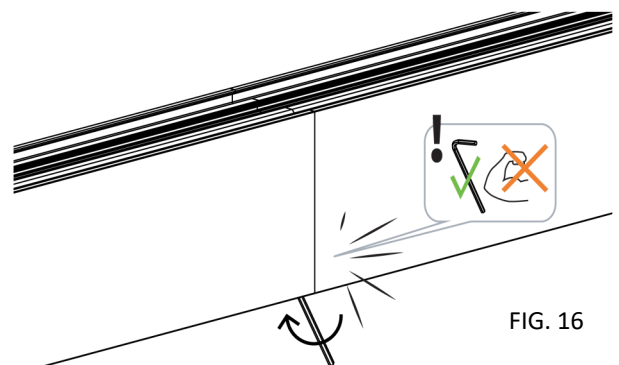

FIG. 16
- Fasten with grub screw and allen key, ensuring not to over tighten (Fig. 16).